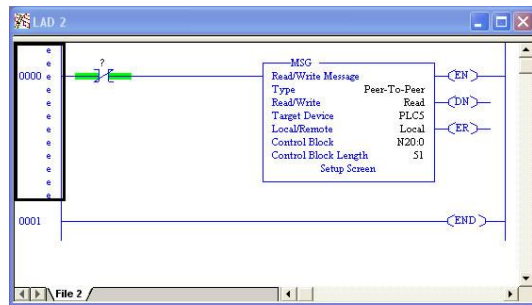

Figure 57: PLC Program after MSG Instruction Configuration
- f) Close the dialog box. At this point, the program should appear as shown in Figure 57.